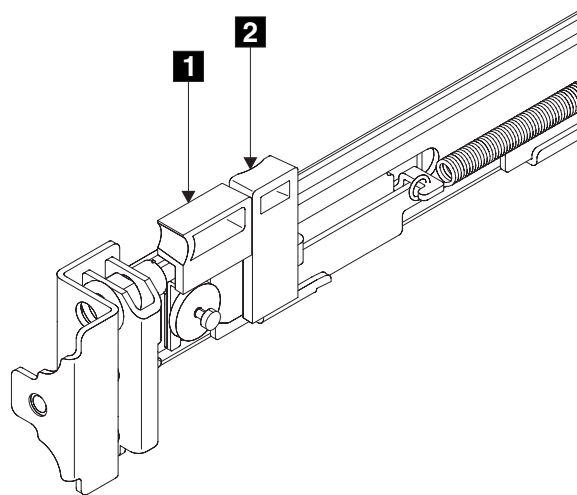

Figure 36. Retracting the latch lock carrier
2. Put your index finger against the side of the latch-lever, **1** in Figure 36, and put your thumb against the front of the latch-lock **2**.